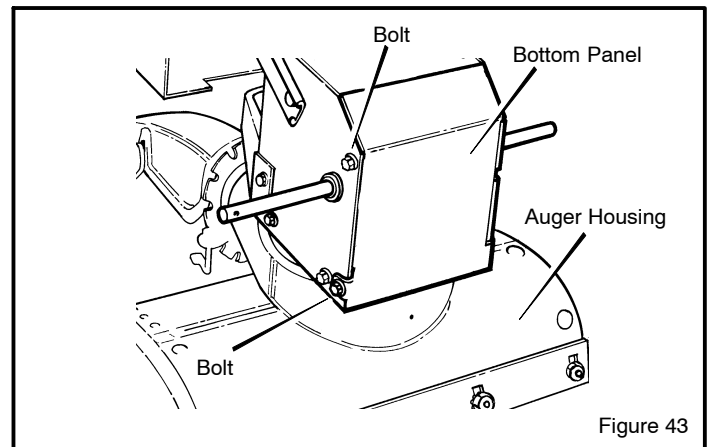

Figure 43
1. Remove the gas from the gas tank. Stand the snow thrower up on the front end of the **auger housing** (see Figure 43).
3. Loosen the **bolts** on each side of the **bottom panel** (see Figure 43).
5. Install the **bottom panel** (see Figure 43).
1. Remove the gas from the gas tank. Stand the snow thrower up on the front end of the **auger housing (4)**. (see Figure 43).